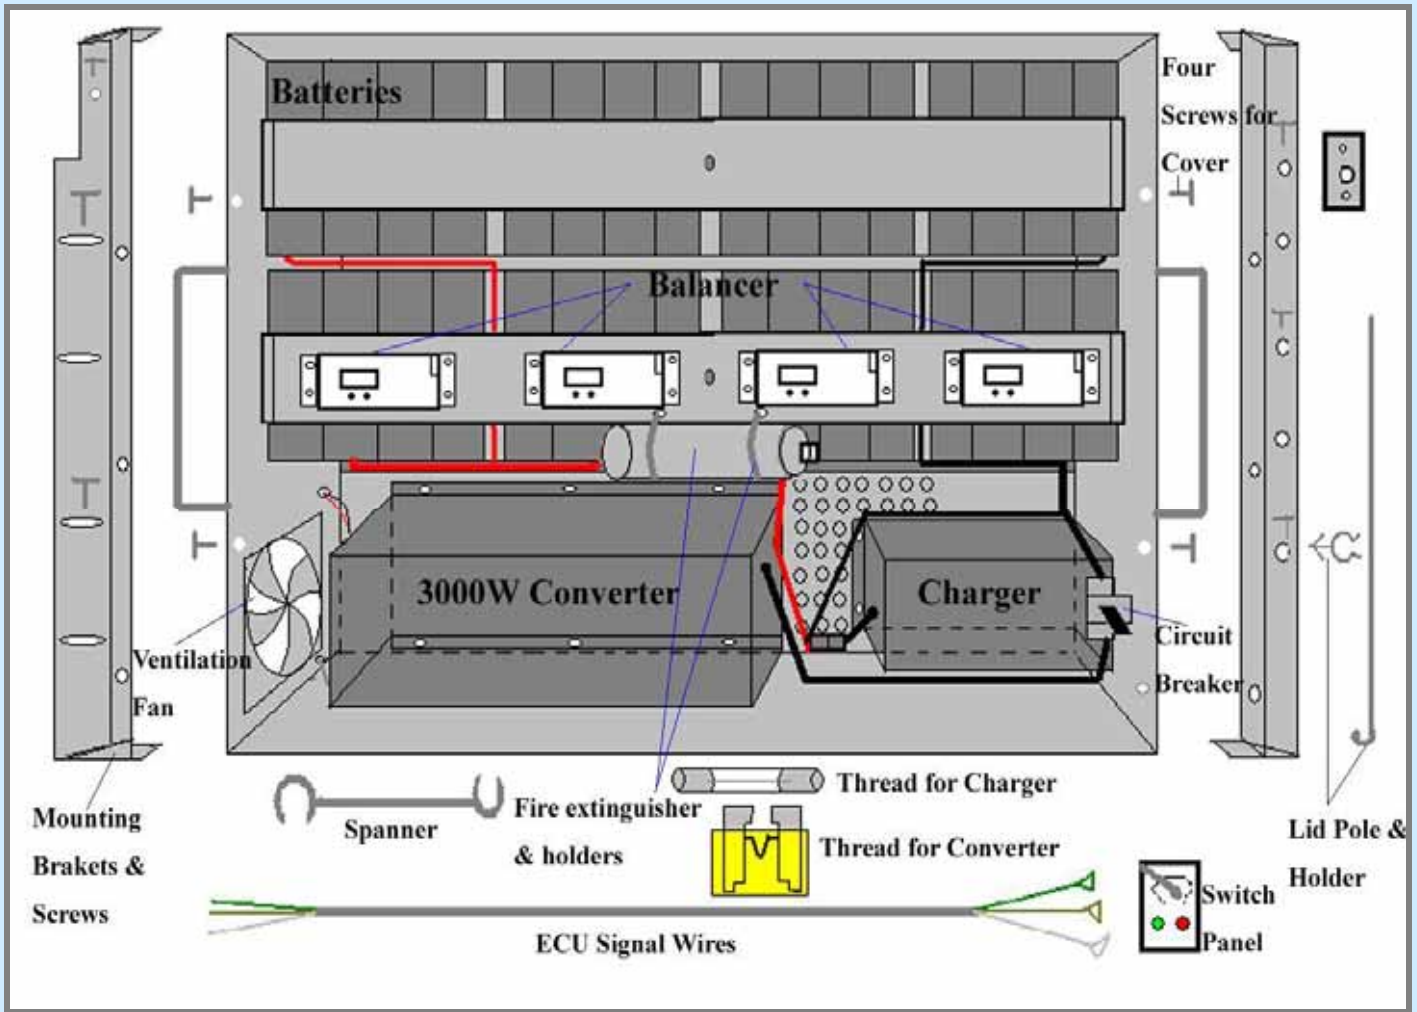

Figure 1: Component Layout
9. Wiring Check: Make sure circuit breaker is in the OFF position, Anderson plug from charger / converter is disconnected, balancers' interfaces are pulled off; Charger and converter connections are connected firmly; Connection between black wires from converter and circuit breaker is connected firmly; Connection between circuit breaker and another black wire is connected firmly. Positive and negative of each group of batteries are connected firmly (16 cells in series, two 16 cell packs in parallel shown in FIG1), terminal plastic covers are in position.